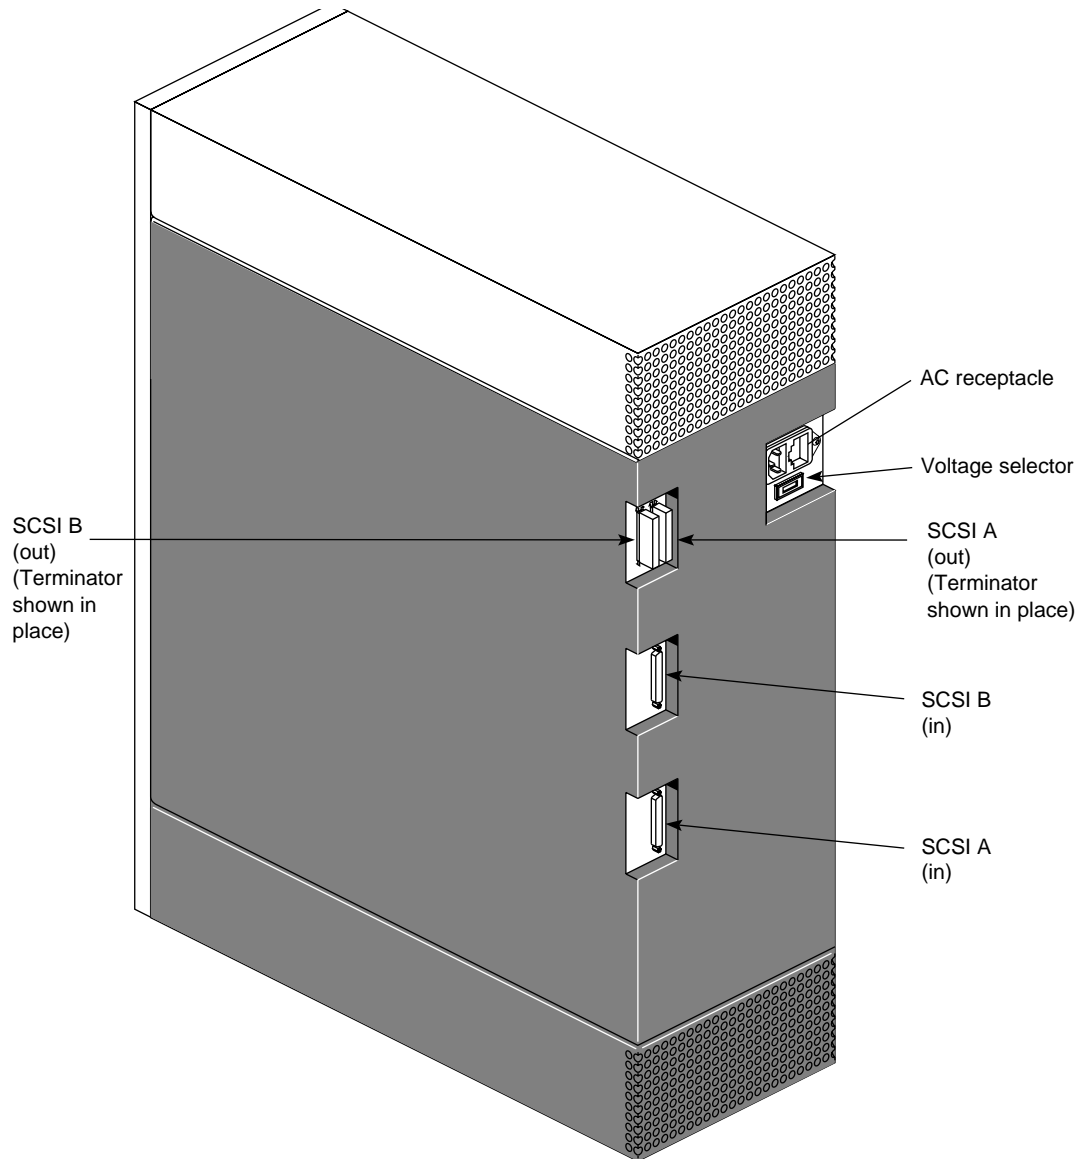

Figure 1-3 Vault L Storage Box (Rear View)
- Figure 1-3** Vault L Storage Box (Rear View)1-5
Note: You can distinguish between a differential and a mixed-channel Vault L storage box by looking at the back of the chassis. The mixed-channel Vault L has an SE TERM: A (singled-ended) label designator, and the differential Vault L does not. See also Figure 1-3 and Figure 1-4.
Figure 1-3 shows the back of the differential-only Vault L storage box. Figure 1-4 shows the back of the mixed-channel Vault L.